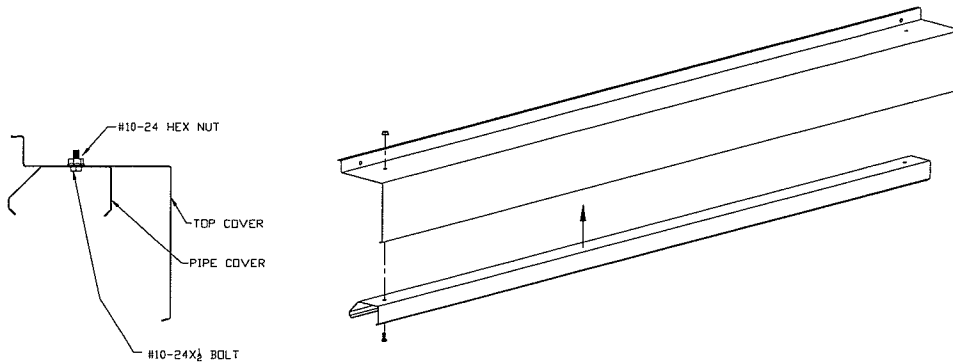

Figure 20
1. Beginning at the pump end of the Kool-Cel system, install the end section of the top cover assembly with #10-24 x 1/2" bolts and nuts provided. The pipe cover should be assembled to the top cover as shown in Figure 20.